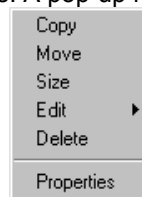

Fig. 2-142 Pop-up Menu
2. Click the right button of the mouse. A pop-up menu as shown in Fig. 2-142 appears.